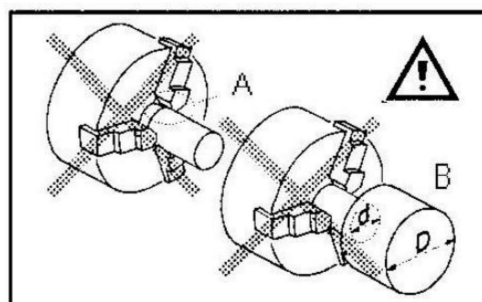

Figure 10-4: Poor clamping
Avoid short clamping contact (A, Fig 10-4) or clamping on a minor diameter (B). Face locate workpiece for added support